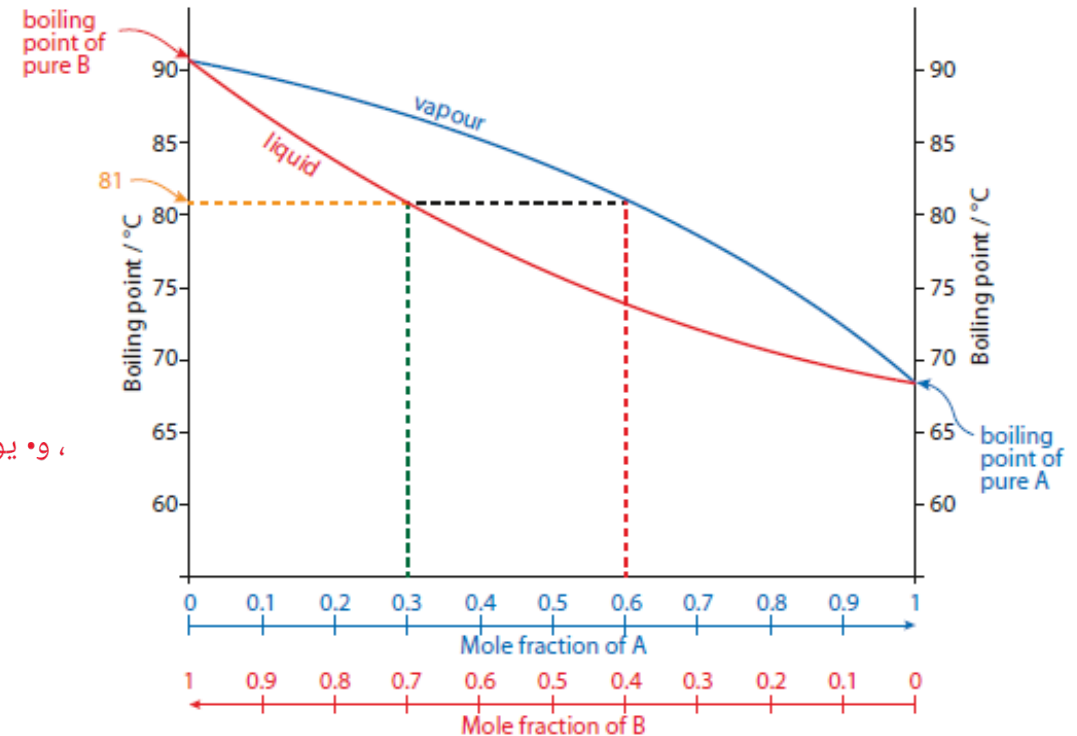

Figure D.47 A boiling point–composition diagram for an ideal solution.
- Consider a mixture in which the mole fraction of A is 0.3 (and that of B is 0.7) – the green dashed line (in Figure D.47) is drawn up from this composition to the liquid line and it can be seen that the boiling point of this mixture is 81 °C.